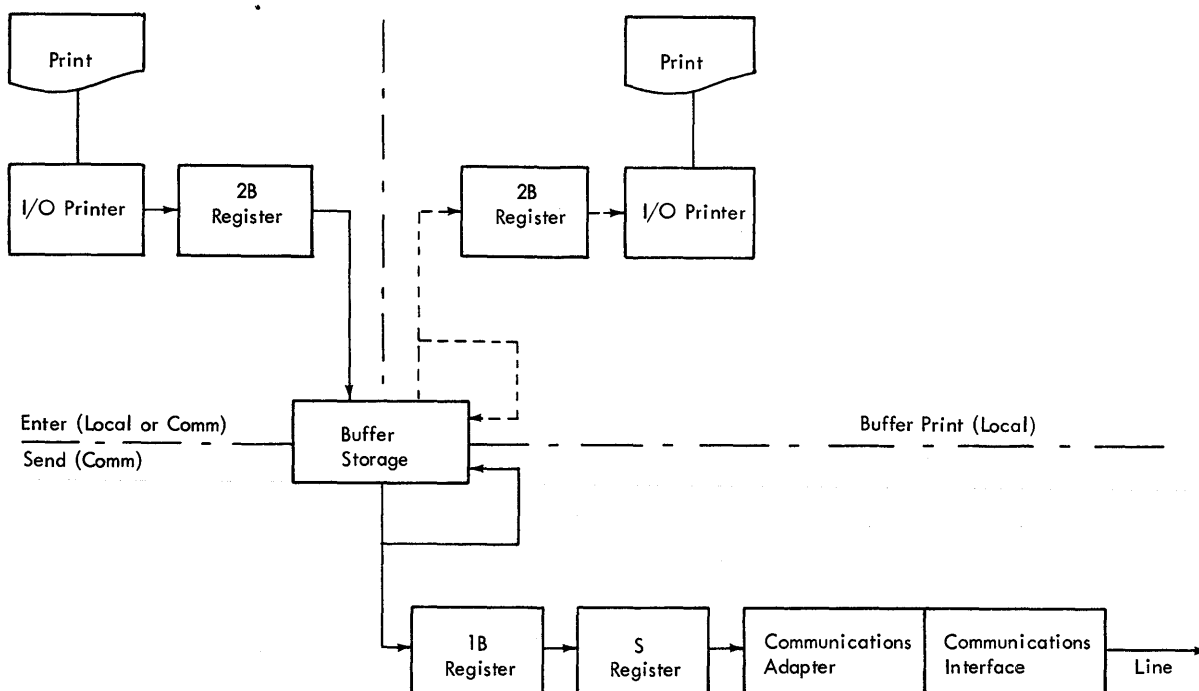

Figure 1-17 Overall Flow of Outgoing Message (2740-2)
2. Type message information on the I/O printer keyboard. Each character is entered into buffer storage as it is typed (Figure 1-17).
3. Press the Bid key. If the I/O is in upper case, it automatically downshifts and the LC shift code stores. The stop code (C) (B) with Record Check) stores automatically.
- (a) When in communicate the 2740-2 waits for a poll and sends the message (Figure 1-17).
- (b) When in local, the I/O prints out the stored information and stops where the stop code character is (C) or (B) stored (Figure 1-17). The Enter light comes on again. The operator has three choices:
- (1) Continue entering from the I/O keyboard. (A downshift will be the last stored character if the last printed character was in upper case.)
- (2) Clear buffer storage and start over.
- (3) Send the message by going to communicate and pressing the Bid key.
With a Buffered Receive terminal, (Figures 1-17 and 1-20), there are four basic data flow routes at three character rates, as shown in the following table: